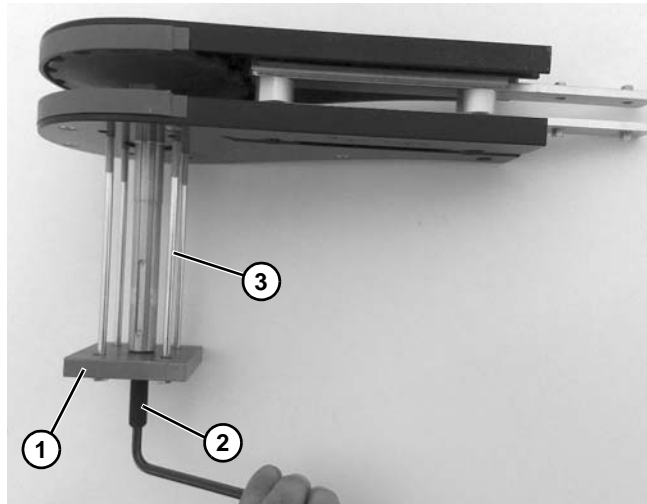
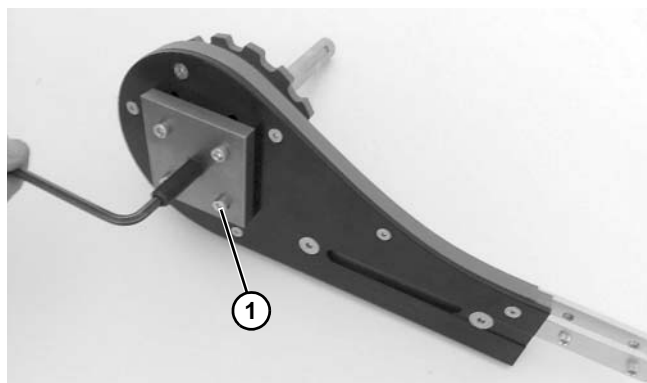

Figure 119
Figure 120
6. Use the bearing tool (**Figure 119, item 1**) to unseat bearings by inserting the four screws and turning the threaded rod (**Figure 119, item 2**) to push bearing out. NOTE: Insert the longer screws (**Figure 119, item 3**) on the drive shaft side and the shorter screws (**Figure 120, item 1**) on the non-shaft side.